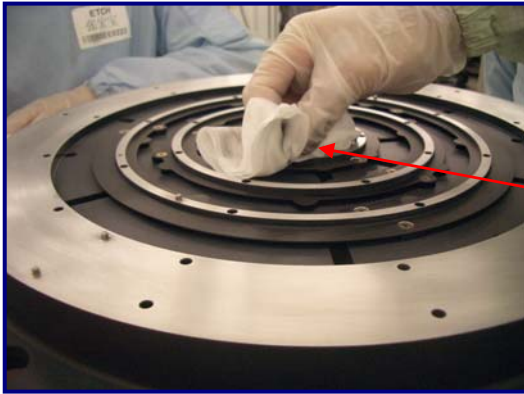

Fig 20: Taking remaining MiraWIPES® and performing a FINAL WIPE PROCEDURE using IPA
Step 16: When wiping hard to reach areas with MiraSWABS® is complete, saturate a MiraWIPES® with IPA and perform a FINAL WIPE PROCEDURE of the hot plate (See Fig 20)